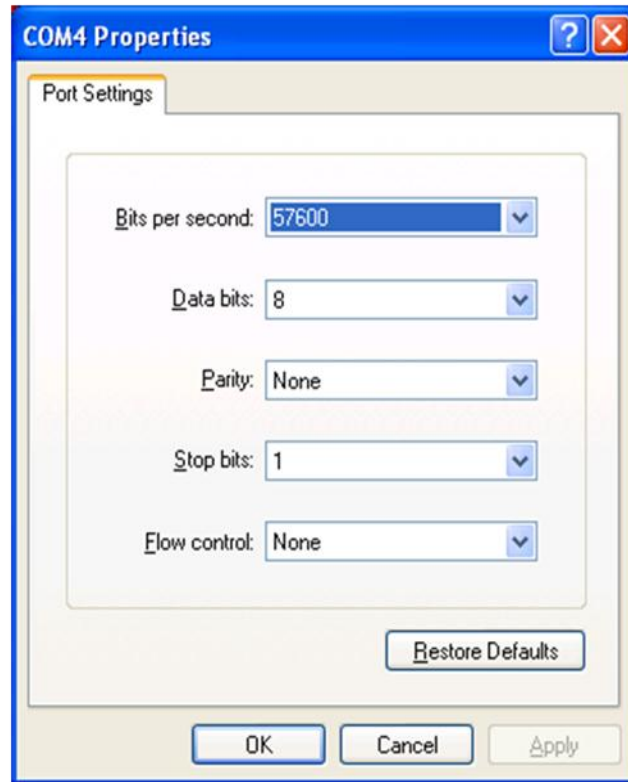

Figure 3 Terminal Window Settings
1. Configure the Terminal Client as shown in Figure 3